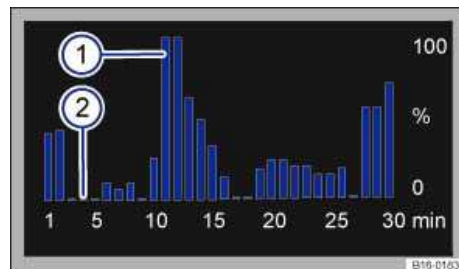

Fig. 129 In the radio or Navigation system display: Overview of Zero emissions driving time.
Zero Emission	<p>Displays the emission-free driving time as a bar graph. Each bar represents 1 minute of driving. The height of the bar indicates the proportion of emission-free driving in %.</p> <p>A full bar, or 100% ⇒ <a href="#">fig. 129 (1)</a>, is a 1 minute interval of emission-free hybrid driving or sailing.</p> <p>No bar, or 0% <a href="#">(2)</a>, is a 1 minute interval driving only with the combustion engine.</p> <p>The display shows the emissions for a maximum of 30 minutes. Tapping Reset resets all values on this graph to zero.</p>